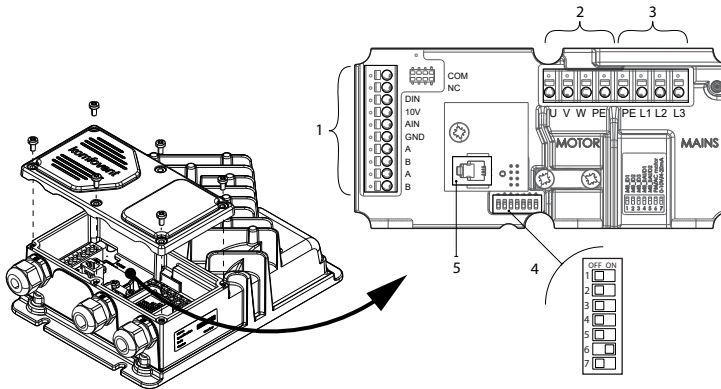

Fig. 2. Frequency inverter
Configure micro-switches, connect electrical power and control cables to the frequency inverter (see Fig. 2):
1. Connect control panel of frequency inverter (see Fig. 2).